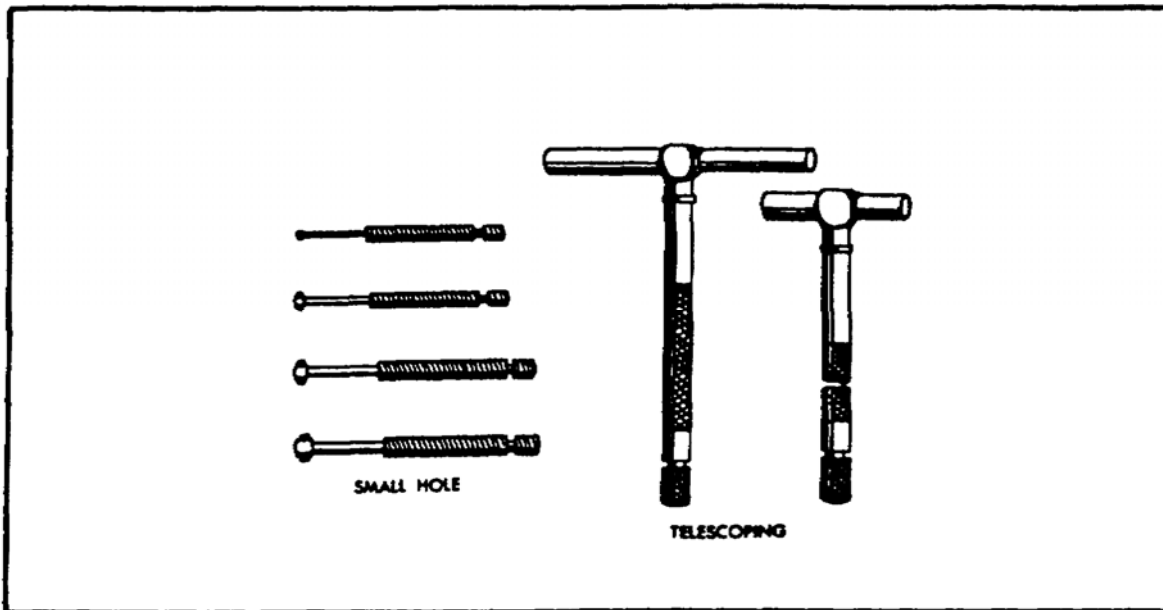

FIGURE 200. SMALL HOLE AND TELESCOPING GAGES.
(1) *Small Hole Gages*. Small hole gages (figure 200) are adjustable, having a rounded measuring member. A knurled screw in the end of the
(2) *Telescoping Gages.* Telescoping gages (figure 200) are used to gage larger holes and to measure inside distances. These gages are equipped with a plunger that can be locked in the measuring position by a knurled screw in the end of the handle. Maximum measuring capacity is 6 inches. Measurements must be calibrated on the gage by a micrometer, as in the case of the small hole gages.